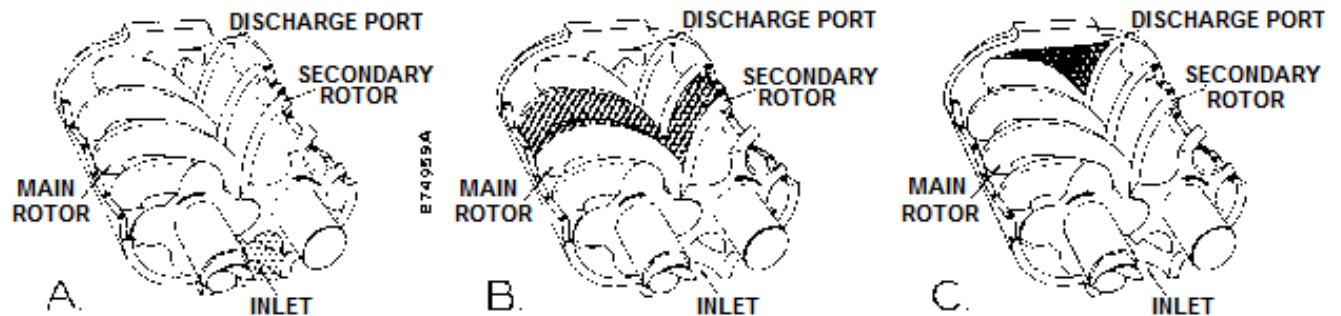

Figure 1-1 - COMPRESSOR CYCLE
COMPRESSION PRINCIPLE (Figure 1-1) - Compression is accomplished by the main and secondary rotors synchronously meshing in a one-piece cylinder. The main rotor has four (5) helical lobes 72° apart. The secondary rotor has five (6) matching helical grooves 60° apart to allow meshing with main rotor lobes.
The air inlet port is located on top of the compressor cylinder near the drive shaft end. The discharge port is near the bottom at the opposite end of the compressor cylinder. *Figure 1-1 is an inverted view to show inlet and discharge ports.* The compression cycle begins as the rotors unmesh at the inlet port and air is drawn into the cavity between the main rotor lobes and the secondary rotor grooves (A). When the rotors pass the inlet port cutoff, air is trapped in the interlobe cavity and flows axially with the meshing rotors (B). As meshing continues, more of the main rotor lobe enters the secondary rotor groove, normal volume is reduced and pressure increases.